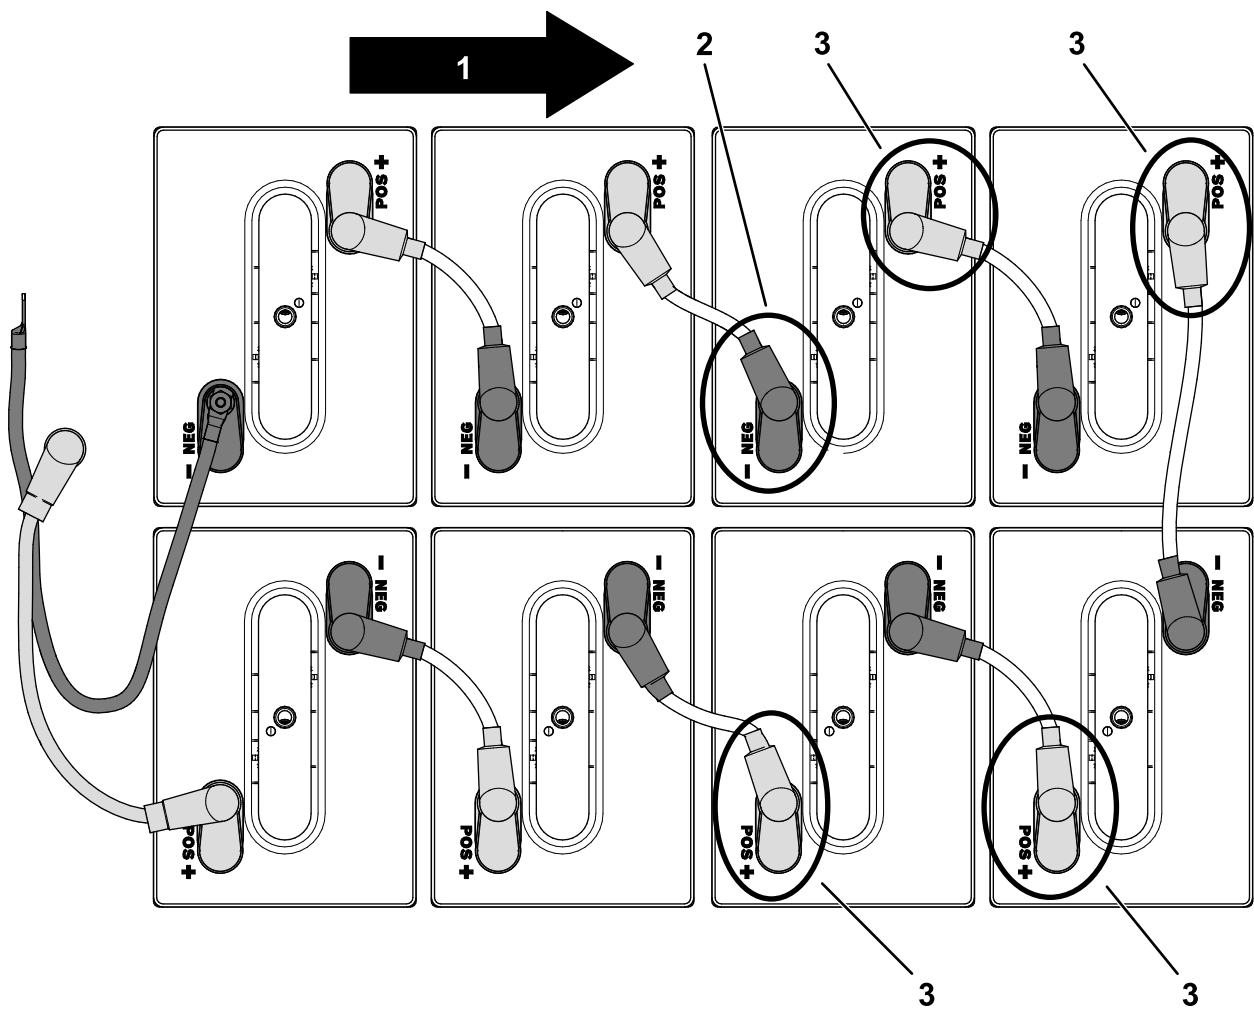

Figure 99
Important: Ensure that the batteries are installed in the orientation in which they were removed; refer to Figure 99.
4. Connect the positive (+) terminal on the front 4 batteries in the front battery tray (Figure 99).
5. Connect the negative (-) terminal as shown in Figure 99.